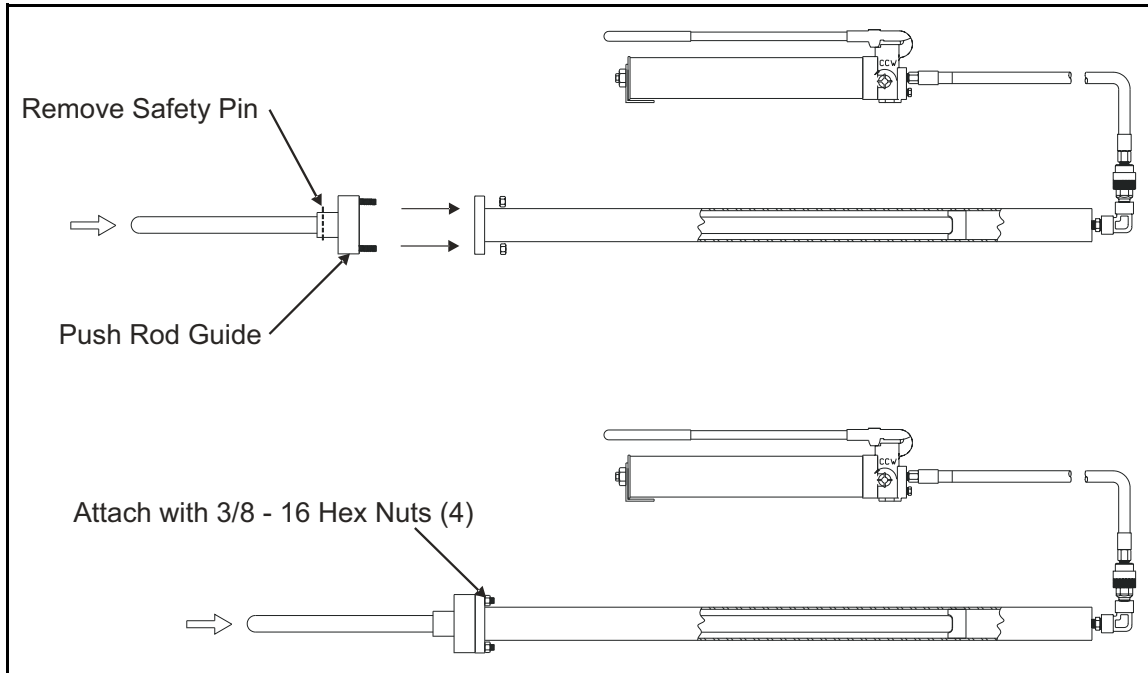

Figure 32: Retracting the Piston
1. Remove the safety pin and attach the guide for the push rod to the hydraulic cylinder with four 3/8-16 hex nuts (see *Figure 32* below). Save the safety pin for future use.